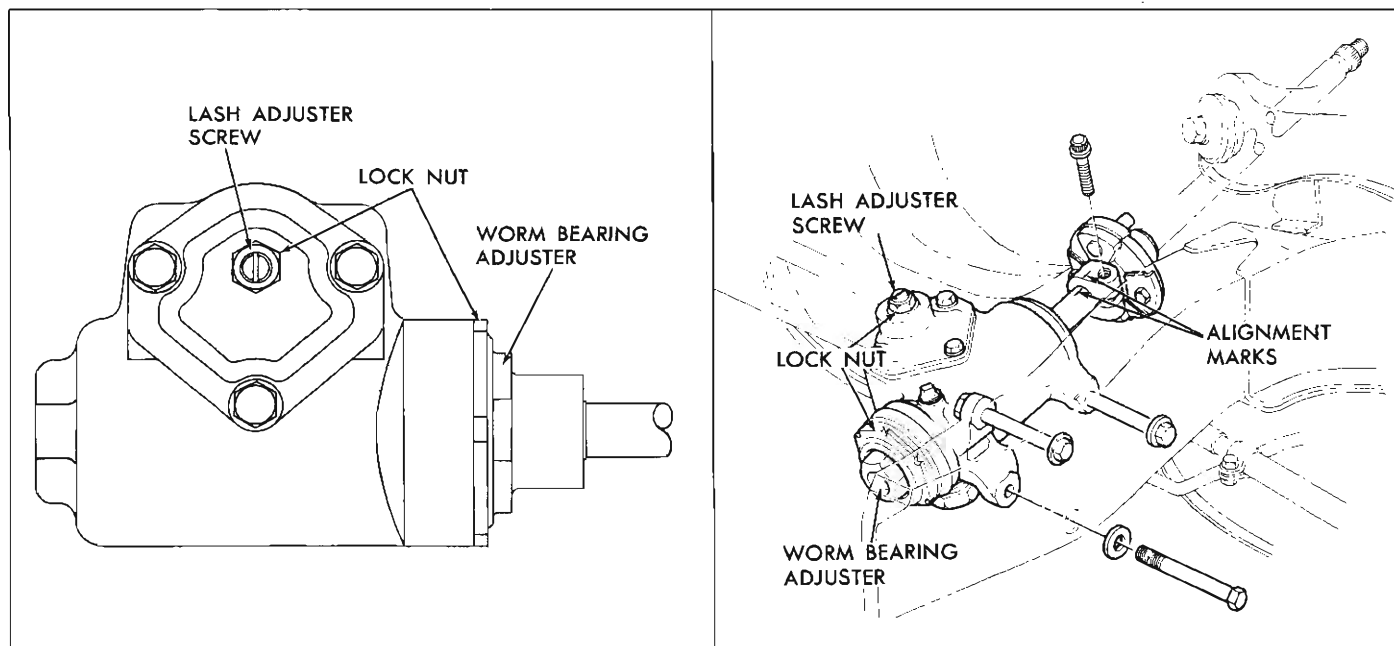

Fig. 3—Steering Gear Adjustment Points
2. Loosen the pitman shaft lash adjuster screw locknut and turn the adjuster screw a few turns in a counter-clockwise direction (fig. 3). This removes the load imposed on the worm bearings by the close meshing of rack and sector teeth. Turn steering wheel gently in one direction until stopped by gear, then back away about one turn.
5. To adjust worm bearings, loosen worm bearing adjuster locknut and turn worm bearing adjuster shown in Figure 3 until there is no perceptible end play in worm. Check pull at steering wheel nut, readjusting if necessary to obtain proper pull. Tighten locknut and recheck pull. If the gear feels "lumpy" after adjustment of worm bearings, there is probably damage in the bearings due to severe impact or to improper adjustment and the gear must be disassembled for replacement of damaged parts.